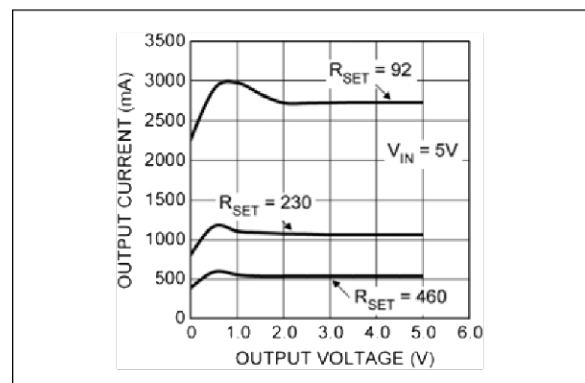

FIGURE 4-12: Output Current vs. Output Voltage.
2. When a short circuit is applied to the output of an enabled device the output current immediately folds back to a value less than I_{LIMIT} called I_{SHORT} . This further protects the load and reduces device power dissipation. Refer to Figure 4-12 for details.